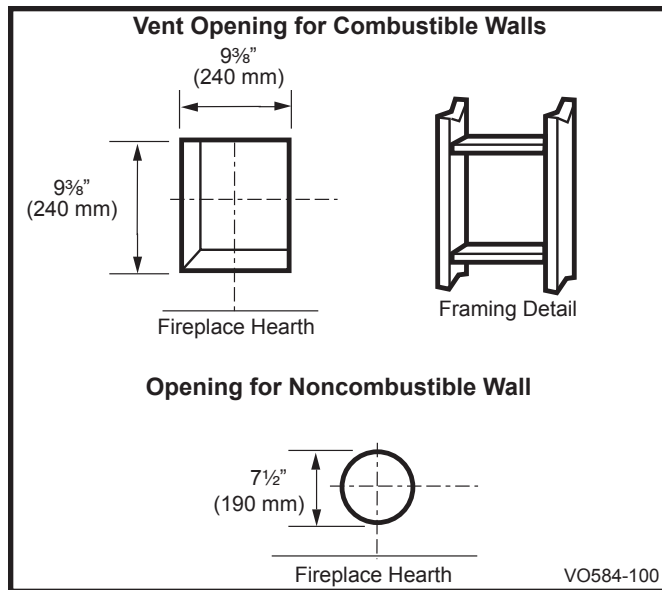

Fig. 31 Locate vent opening on wall.
Locate vent opening on the wall. It may be necessary to first position the fireplace and measure to obtain hole location. Depending on whether the wall is combustible or noncombustible, cut opening to size. (Fig. 31) (For combustible walls first frame in opening.)
**Combustible Walls:** Cut a 9 3/8" H x 9 3/8" W (240 mm x 240 mm) hole through the exterior wall and frame as shown. (Fig. 31)
1. Establish vent hole through the wall (Fig. 31)